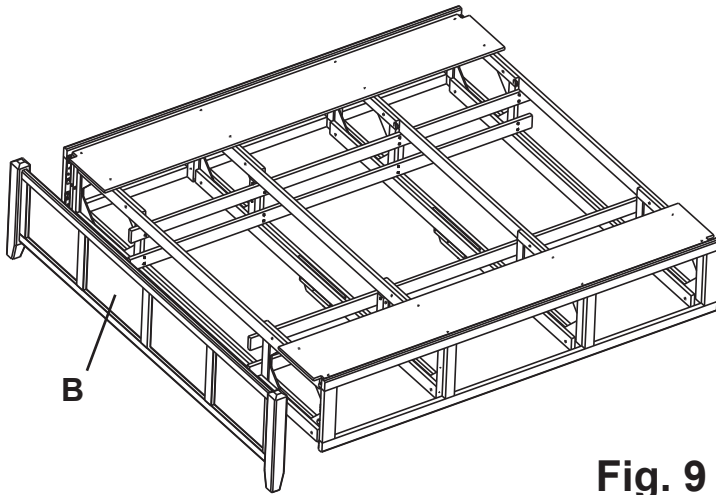
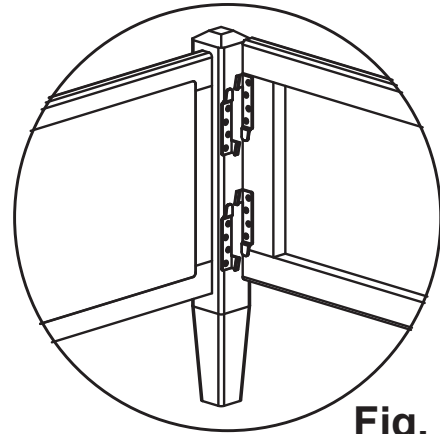

Fig. 9
Fig. 9a
9. Attach the Footboard (B) to the Pedestal Assembly as in Figure 9. Align the brackets as shown in Figure 9a and slide the Pedestal Assembly down on to the Footboard (B).